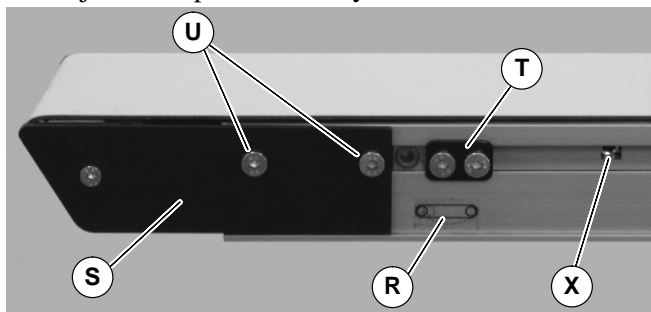

Figure 27
1. On tension end of the conveyor, identified with a  label (R of Figure 27), adjust head plate assembly (S): On both sides of conveyor, loosen fastening screws (U) and rotate pinion gear (X) to adjust head plate assembly.
3. After adjusting proper tensioning, tighten fastening screws (U of Figure 27) on both sides of conveyor to 60 in-lb (7 Nm).
4. If equipped with cam tracking assemblies (T of Figure 27) position against head plates and adjust belt tracking. Refer to "Conveyor Belt Tracking", next section.